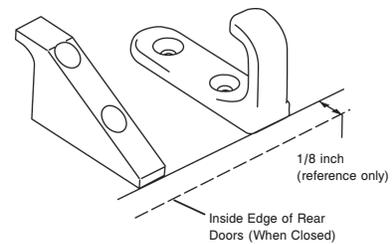
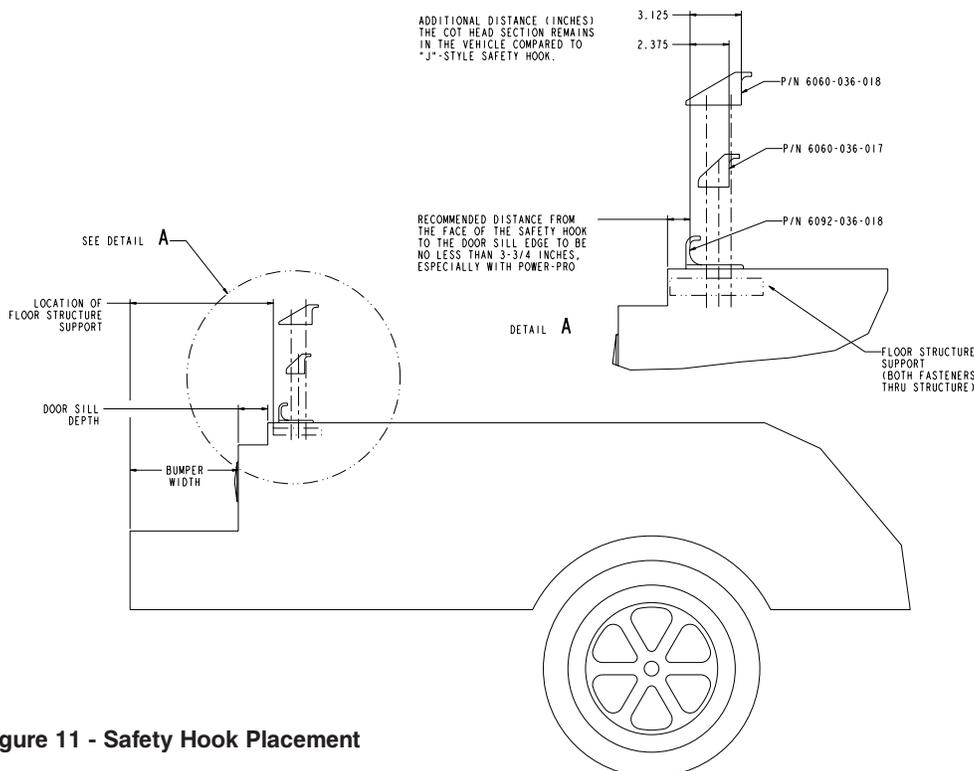

Figure 10 - Safety Hook Placement
Figure 11 - Safety Hook Placement
3. Center the safety hook on the cot safety bar, with the hook facing the front of the vehicle (Figure 10). For best results, the face of the safety hook which engages the safety bar should be at least 3-3/4" from the leading edge of the door sill (Figure 11).